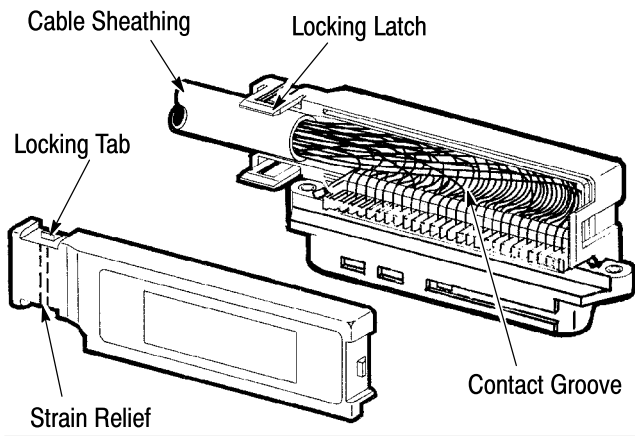

Figure 5
1. Grip the connector firmly with one hand, then draw the other hand over the wires and toward the proper end of the connector - forming the wires as indicated in Figure 5. Do NOT overwork the wires.